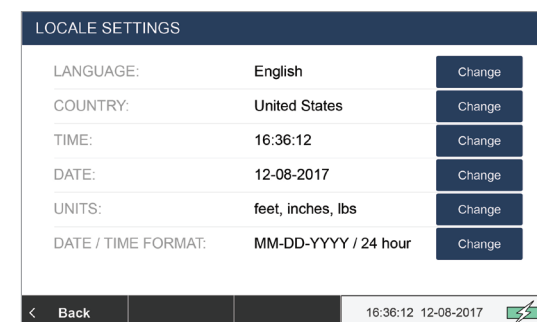

Figure 21 Locale Settings Screen
- The **LOCALE SETTINGS** screen shows the current settings. Press **Change** next to a settings option to change that setting (see Figure 21).
7. To change the time, from the **LOCALE SETTINGS** screen (see Figure 21) press **Change** next to **Time** to go to the **Adjust Time** screen.
8. To change the time format or date format, from the **LOCALE SETTINGS** screen (see Figure 21) press **CHANGE** next to **Date/Time Format** to go to the **Select Format** screen.
9. To change the units used for patient height and weight, from the **LOCALE SETTINGS** screen (see Figure 21) press **Change** next to **Units** to go to the **Select Units** screen.